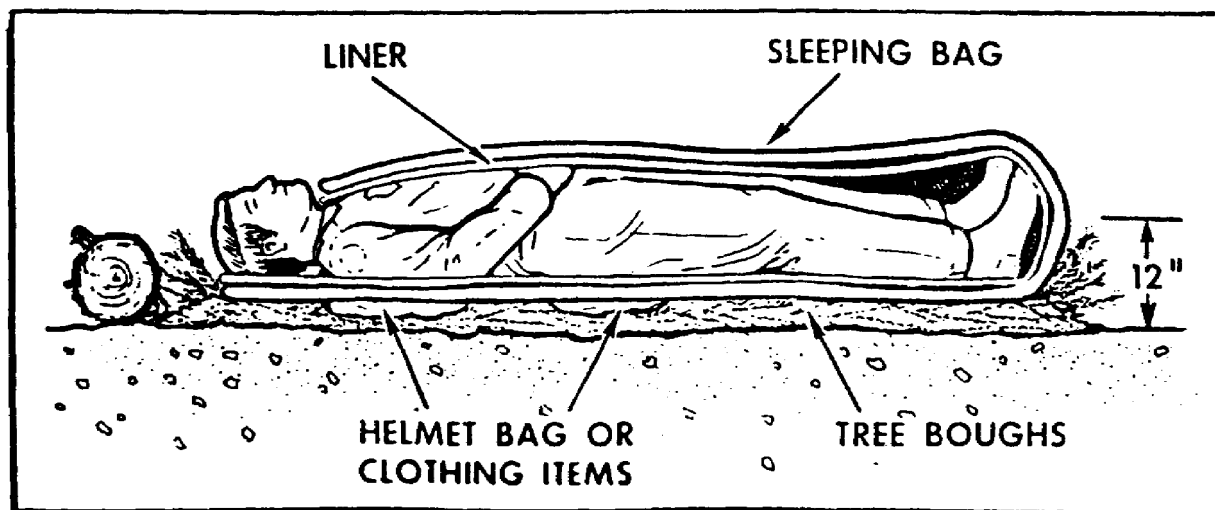

Figure 6. Sleeping system.
(7) If you fall into water, first roll in dry snow to blot up the moisture. Next, brush off the snow and roll again until most of the water is absorbed. Do not remove footwear until you are in a shelter or beside a fire.
(8) Sleeping systems (sleeping bag, liner, and bed) are the transition "clothing" used between normal daytime activities and sleep (Figure 6). At night, arrange dry spare clothing loosely around and under the shoulders and hips to help keep the body warm. Wet clothes should never be worn into the sleeping bag. The moisture destroys the insulation value of the bag. The insulating material in the sleeping bag may be synthetic or down and feathers. (Feathers and down lining require extra protection from moisture.) However, the covering is nylon. You must realize that sleeping bags are compressed when packed and must be fluffed before use to restore the insulation value. Clean and dry socks, mittens, and other clothing can be used to provide additional insulation.